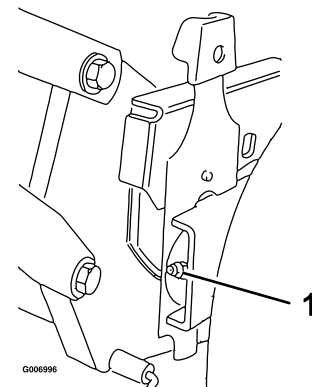

Figure 27
2. Wipe the grease fittings with a clean rag (Figure 27).